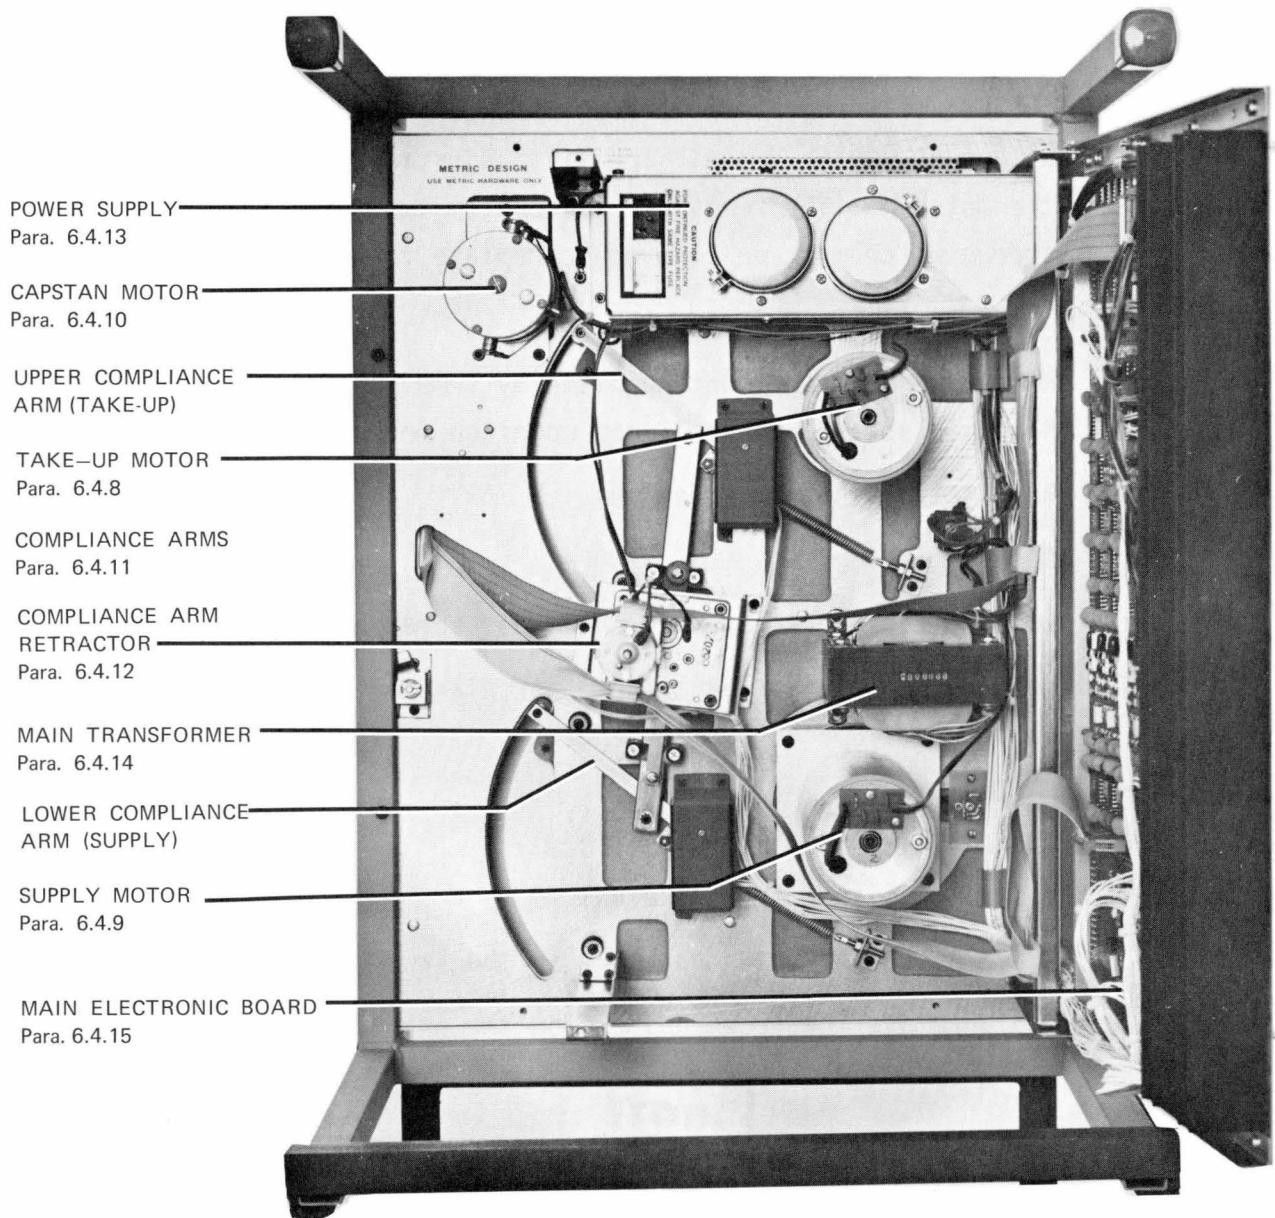

FIGURE 6-2. REAR PANEL LOCATION
#### 6.4.8 Take-Up Motor (Upper) (Refer to Figure 6-2)
#### 6.4.9 Supply Motor (Lower) (Refer to Figure 6-2)
### 6.4.11 Compliance Arms (Refer to Figure 6-2)
2. Lower Compliance Arm (Supply) (Refer to Figure 6-2)
3. Installing Compliance Arms (Refer to Figure 6-2)
## 6.4.12 Compliance Arm Retractor (Refer to Figure 6-2)
## 6.4.13 Power Supply (Refer to Figure 6-2)
#### 6.4.14 Main Transformer (Refer to Figure 6-2)